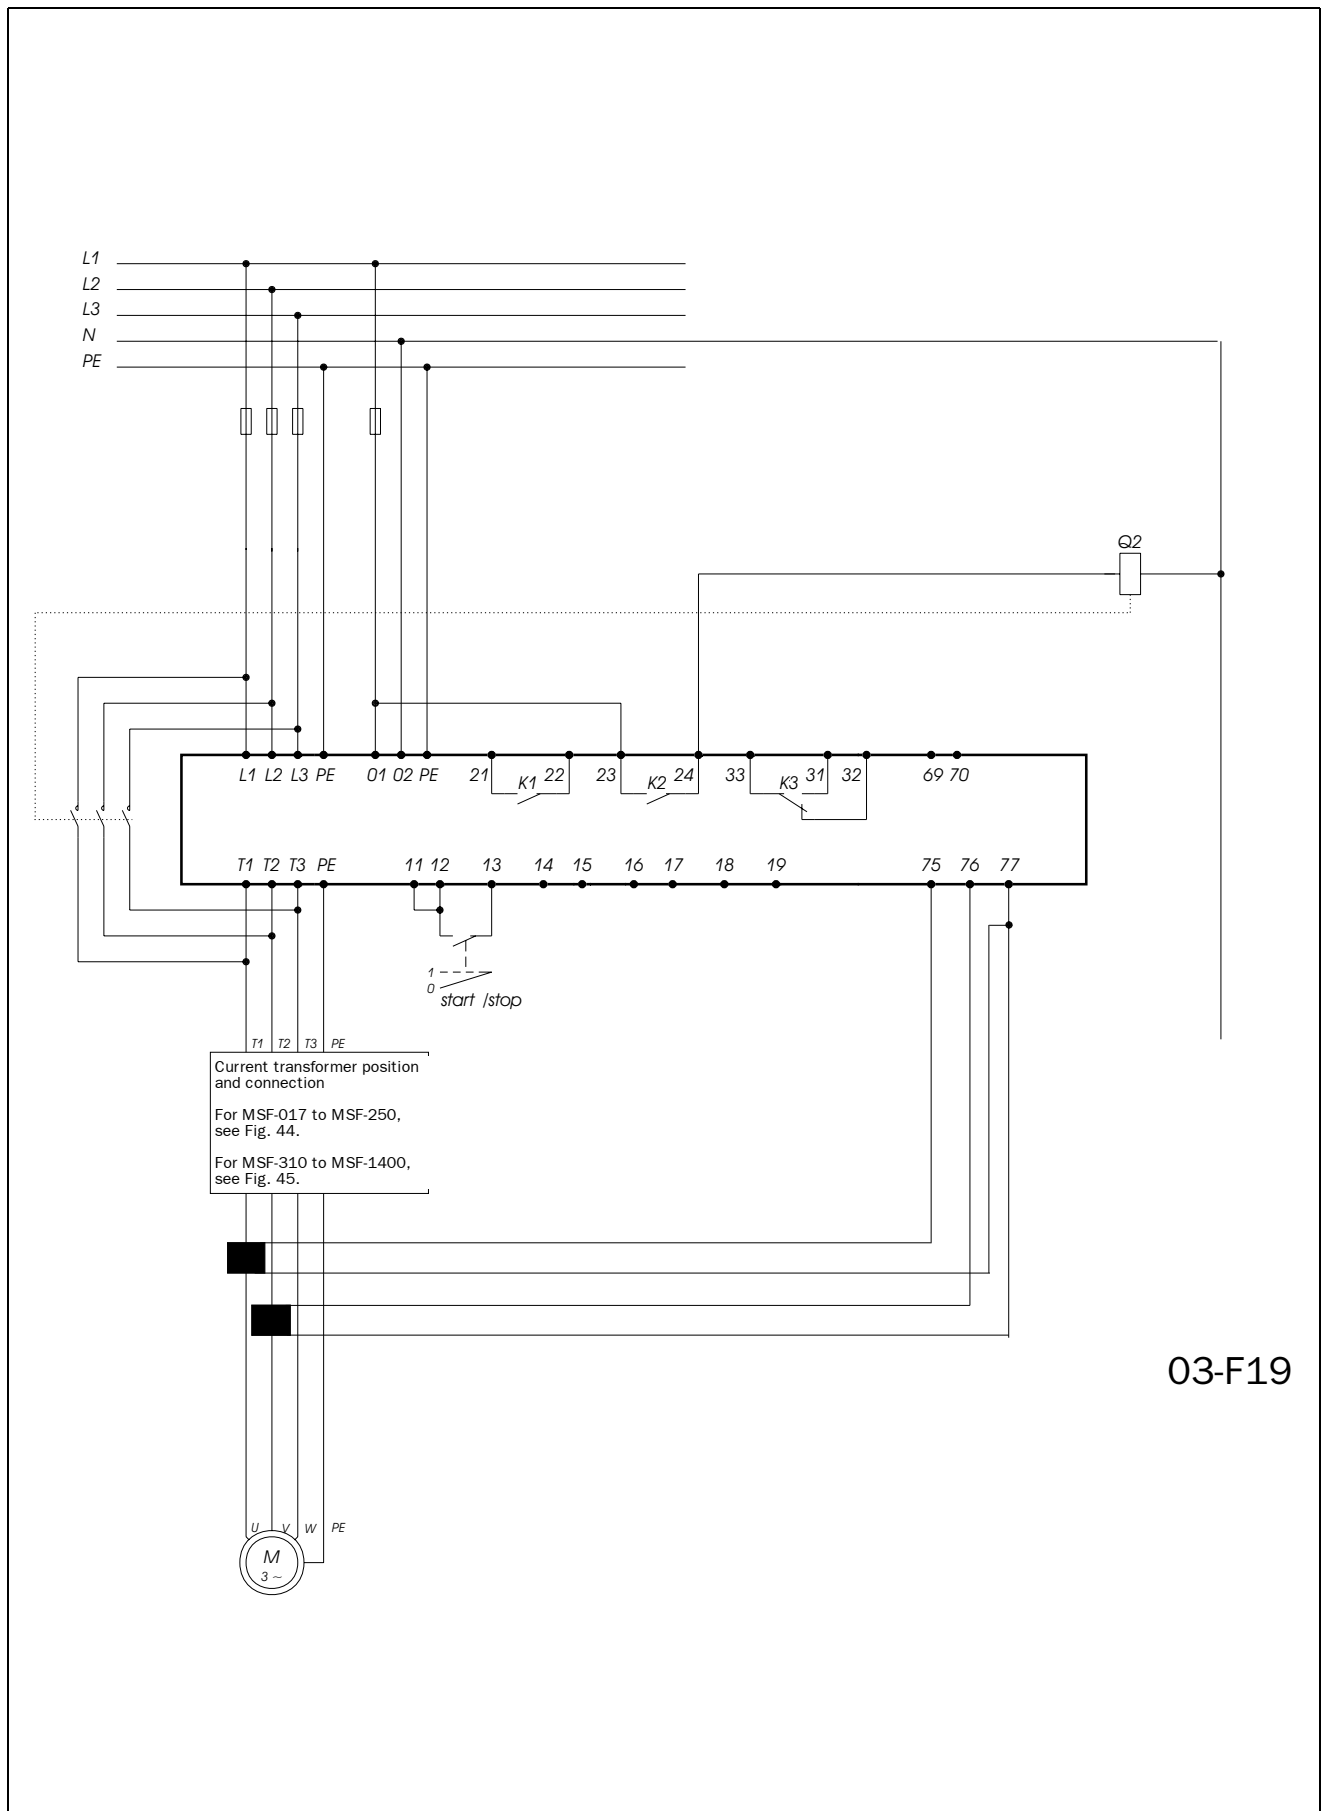

Fig. 43 Bypass wiring example MSF 310-1400.
**CAUTION! If the current transformers are not mounted as in Fig. 43 on page 44 and § 6.2, page 28, the alarm and viewing functions will not work. Do not forget to set menu 032 to ON, otherwise there will be an F12 alarm and at the stop command will be a freewheeling stop.**